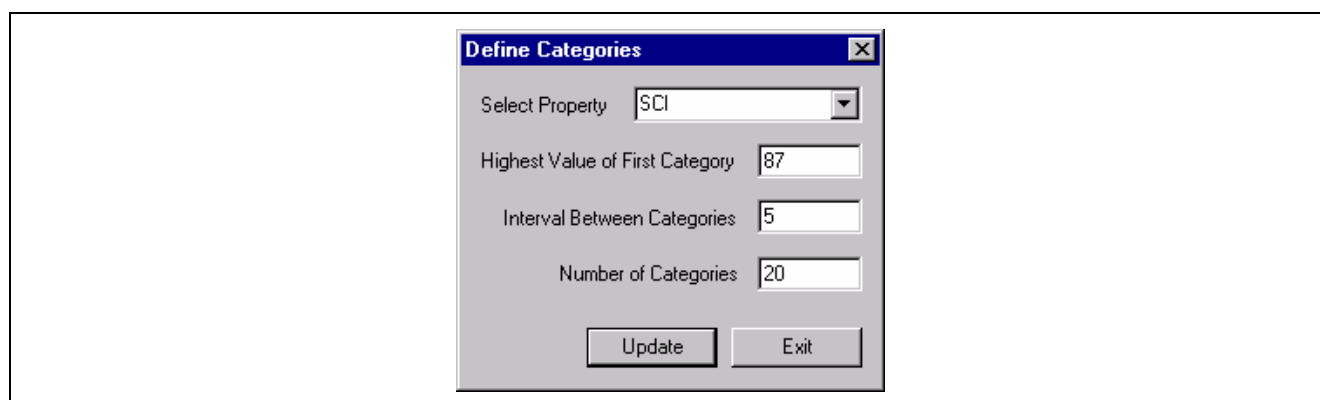

Fig. 6-20 Define Categories Screen III
6.1 Select and highlight SCI. Enter 87 for the Highest Value, 5 for the Interval Between and 20 for the Number of Categories (Fig. 6-20)